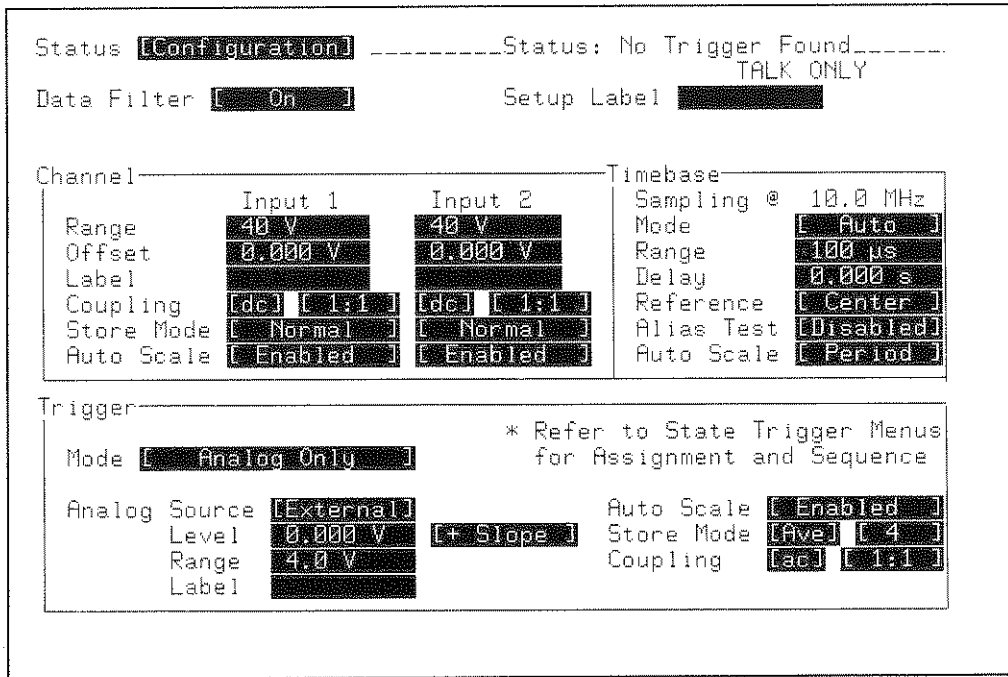

Figure 9-13. STATUS Configuration Menu
1. Configure STATUS Configuration menu as shown in figure 9-13.